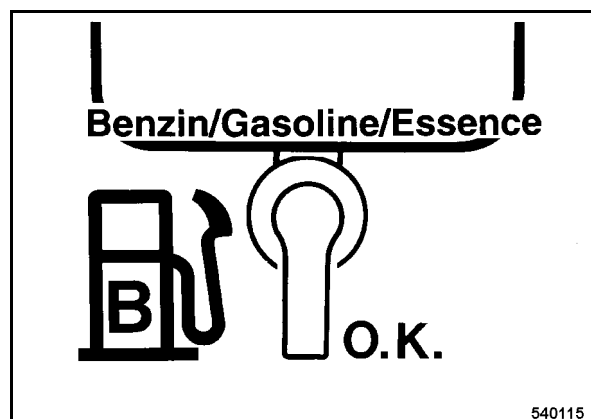

Fig. 11
- Open the fuel cock (Fig. 11).